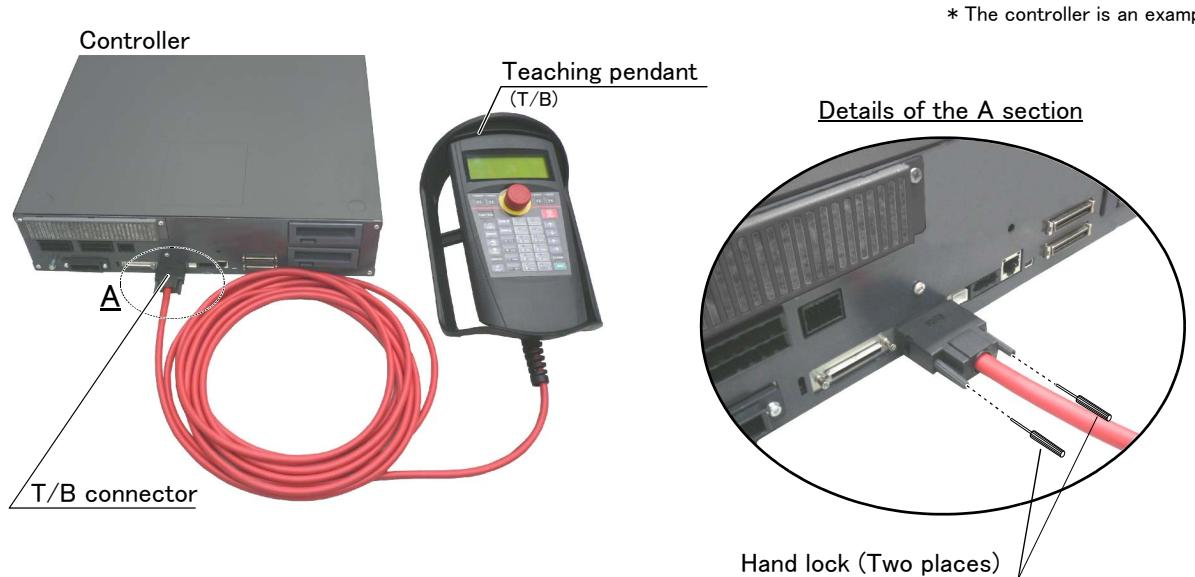

Fig. 4-7 : Installing and removing the T/B (CR751 controller)
- 2) Connect the T/B connector to the controller's T/B connector. Make sure to fix it securely by fastening the hand locks (in 2 places), as shown in Fig. 4-7.